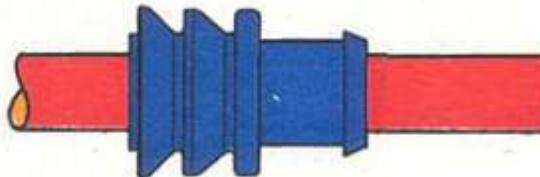

Figure 97
- (1) Fit new wire seals on wires, including solder shield drain lead, as shown in Figure 97.